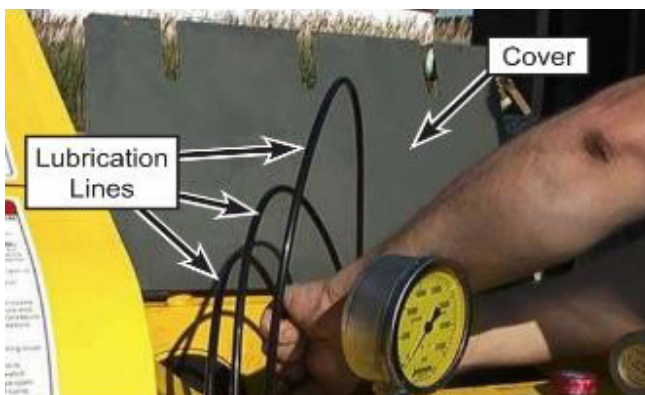

Figure 1: Disconnecting Lubrication Lines
- e. Open the rod box cover and disconnect the lubrication lines from the stuffing box fittings (Figure 1).